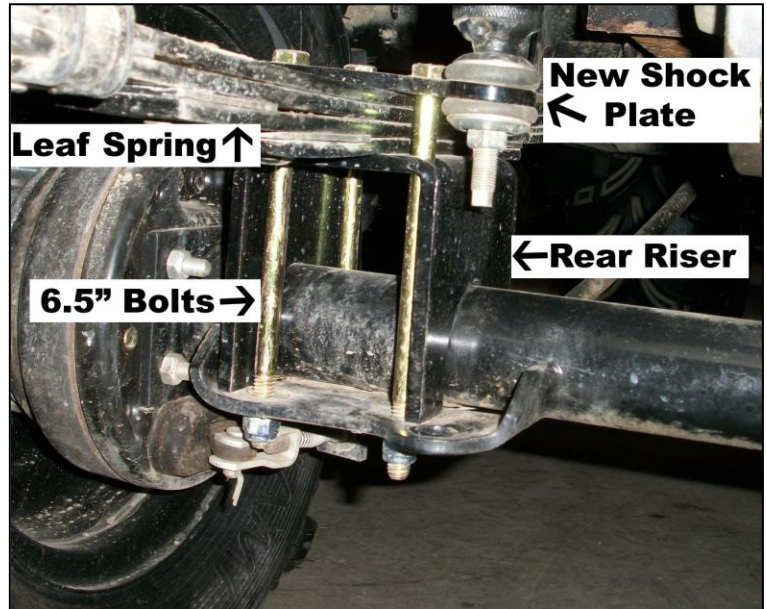

Figure 10
14. Loosely mount Jake's steering extension to the stock steering column using the supplied nut and bolt (ITEM V). Loosely mount Jake's steering box to the top frame support (ITEM B). **SECURELY TIGHTEN ALL BOLTS. NOTE: WASHERS MUST GO BETWEEN SUB-FRAME & STEERING BOX. SECURELY TIGHTEN ALL BOLTS AS SHOWN IN FIGURE 10.**